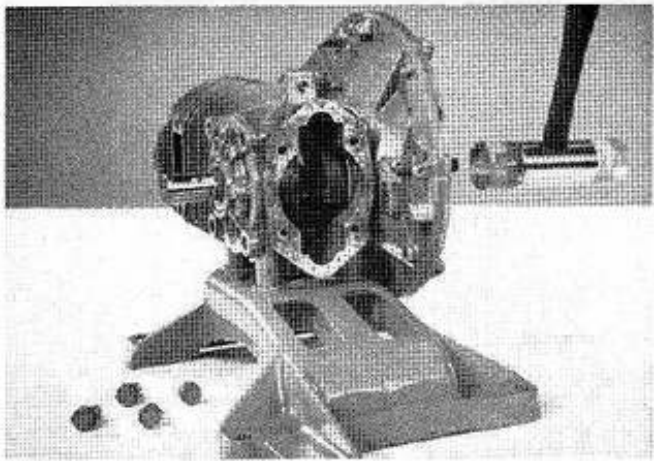

Figure 83. Crankcase Head Removal.
- a. Using a 1/2" socket, remove the four hex head cap screws that hold the crankcase head assembly to the engine. (See Figure 83.)